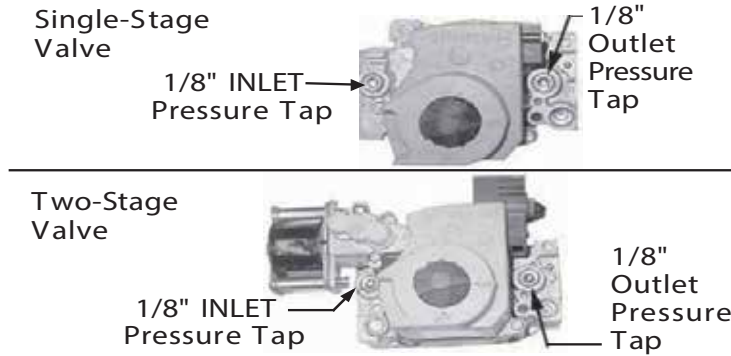

Figure 36. Combination Gas Valve Test Connections
- a. Locate 1/8-inch FPT INLET pressure tap on combination gas valve (see Figure 36).
- With field-installed manual valve closed to prevent flow to gas valve, connect manometer to 1/8-inch FPT INLET pressure tap (see Figure 36).